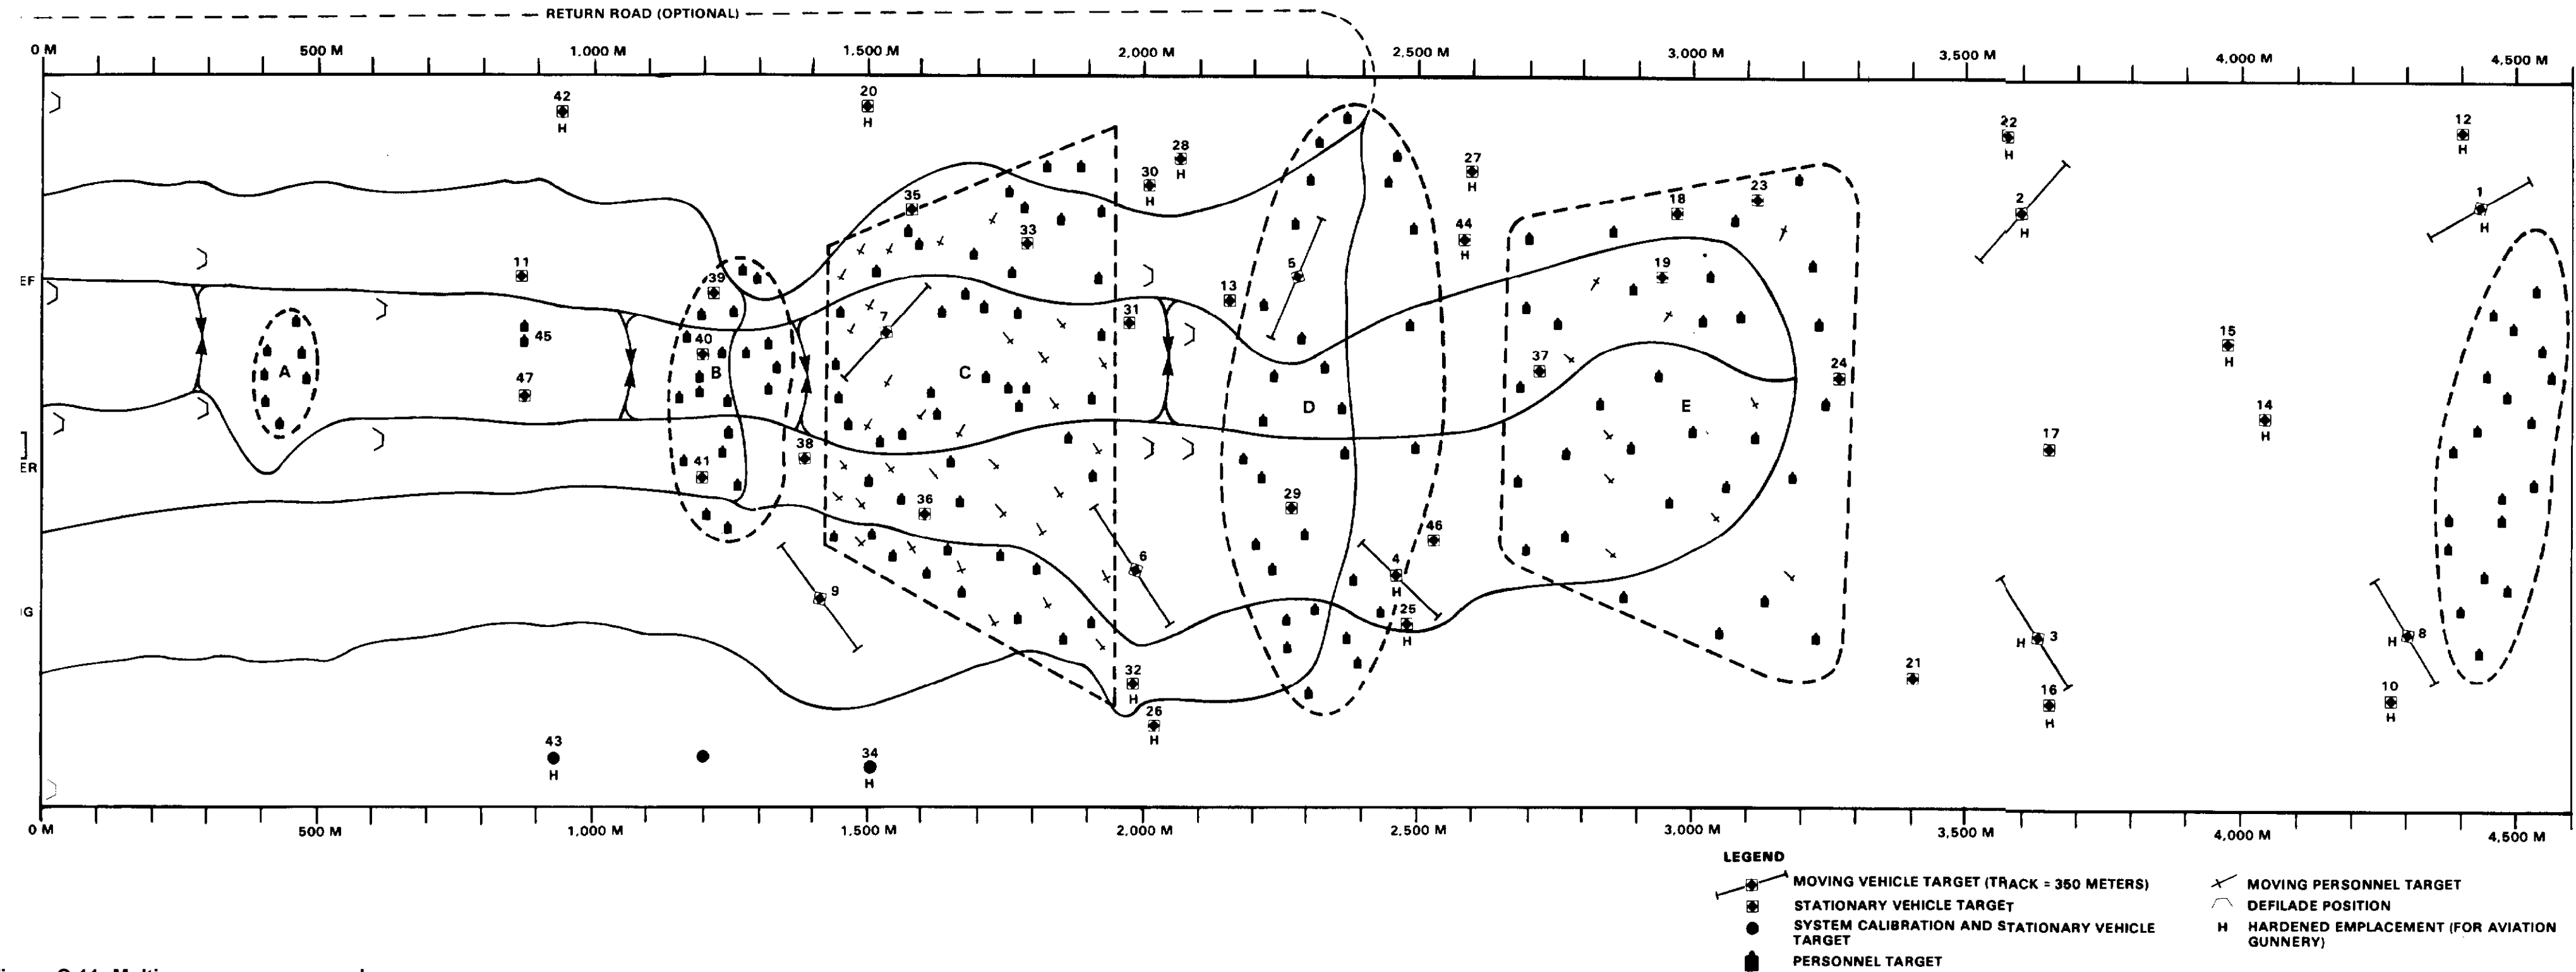

Figure C-11. Multipurpose range complex.
The multipurpose range complex is designed to conduct armor and mobilized machine gun firing. Detailed setup and target configuration is described in FM 25-7; its layout is shown in Figure C-11. This section also discusses the mounted firing exercise, requirements for crews, rating procedures, and standards.
- b. System calibration targets must be provided at ranges of 950, 1,200, and 1,500 meters, as shown in Figure C-11.